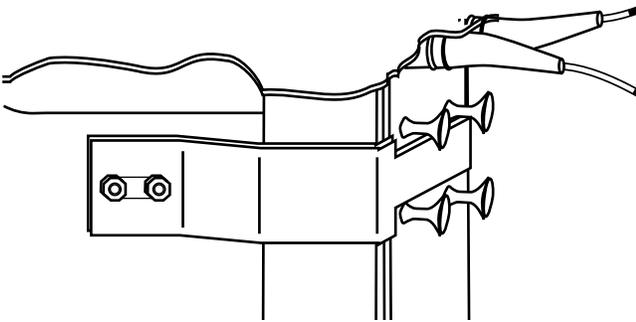

Figure 7
a) Remove the module lock-bracket, if installed, by removing the two  $\frac{7}{16}$ -inch nuts holding it to the backplate (Figure 7).